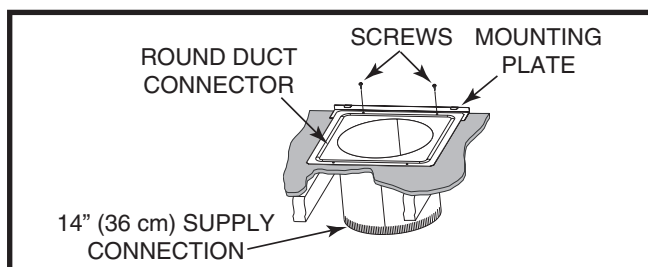

Figure 12. Round Duct Connector Installed
3. Install the mounting plate under the back side of the duct connector. See Figure 12 \(page 9\). **NOTE:** Align the screw holes in both components.